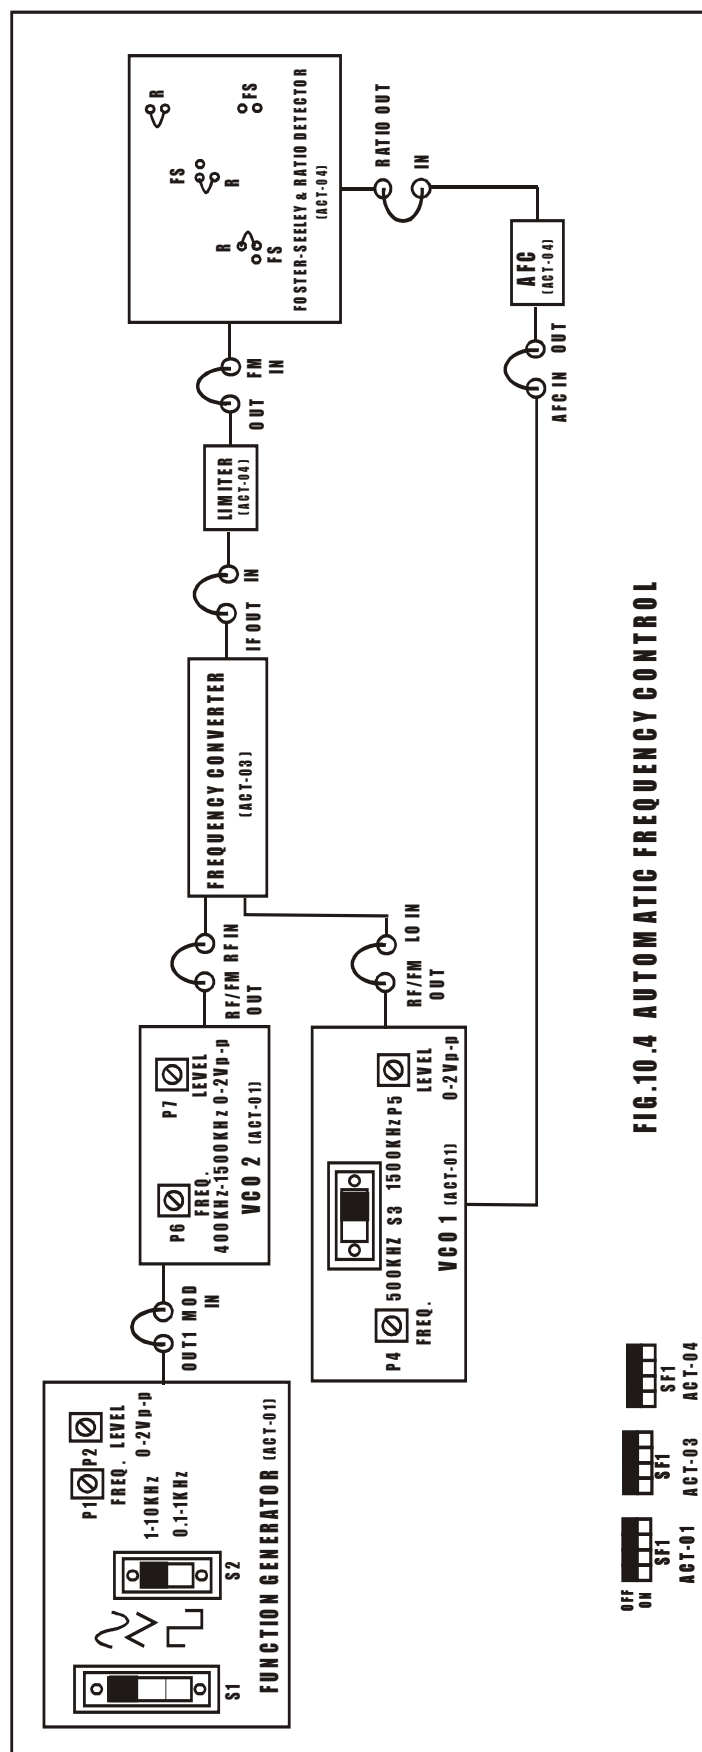

FIG.10.4 AUTOMATIC FREQUENCY CONTROL
- Introduce the Automatic Frequency Control (AFC) carrying out the connections of fig. 10.4. The AFC operation can be explained in the following way: